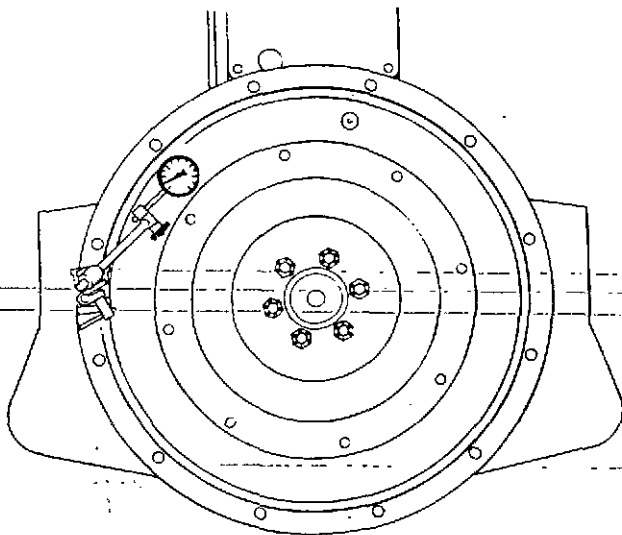

Figure 5-25. Indicating Flywheel Face
4. Attach the indicator as shown in figure 5-25, to check the face of the flywheel. Runout should not exceed 0.008 inch total indicator reading. If runout is excessive, remove the flywheel and check for dirt or foreign